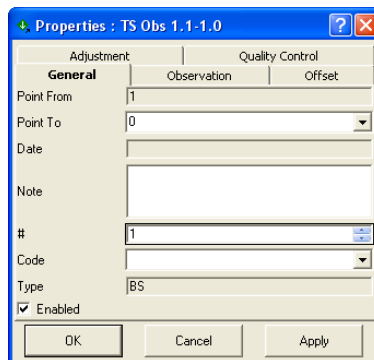

Figure 5-87. General Properties
- View or edit *General* tab fields (Figure 5-87).